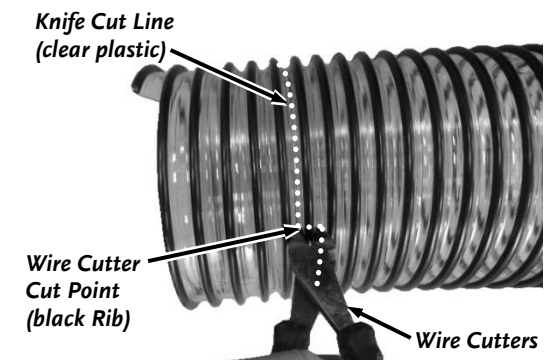

Figure 61
- Trace the area to cut around the Hose first to ensure your path meets at the opposite side (**Figure 61**).